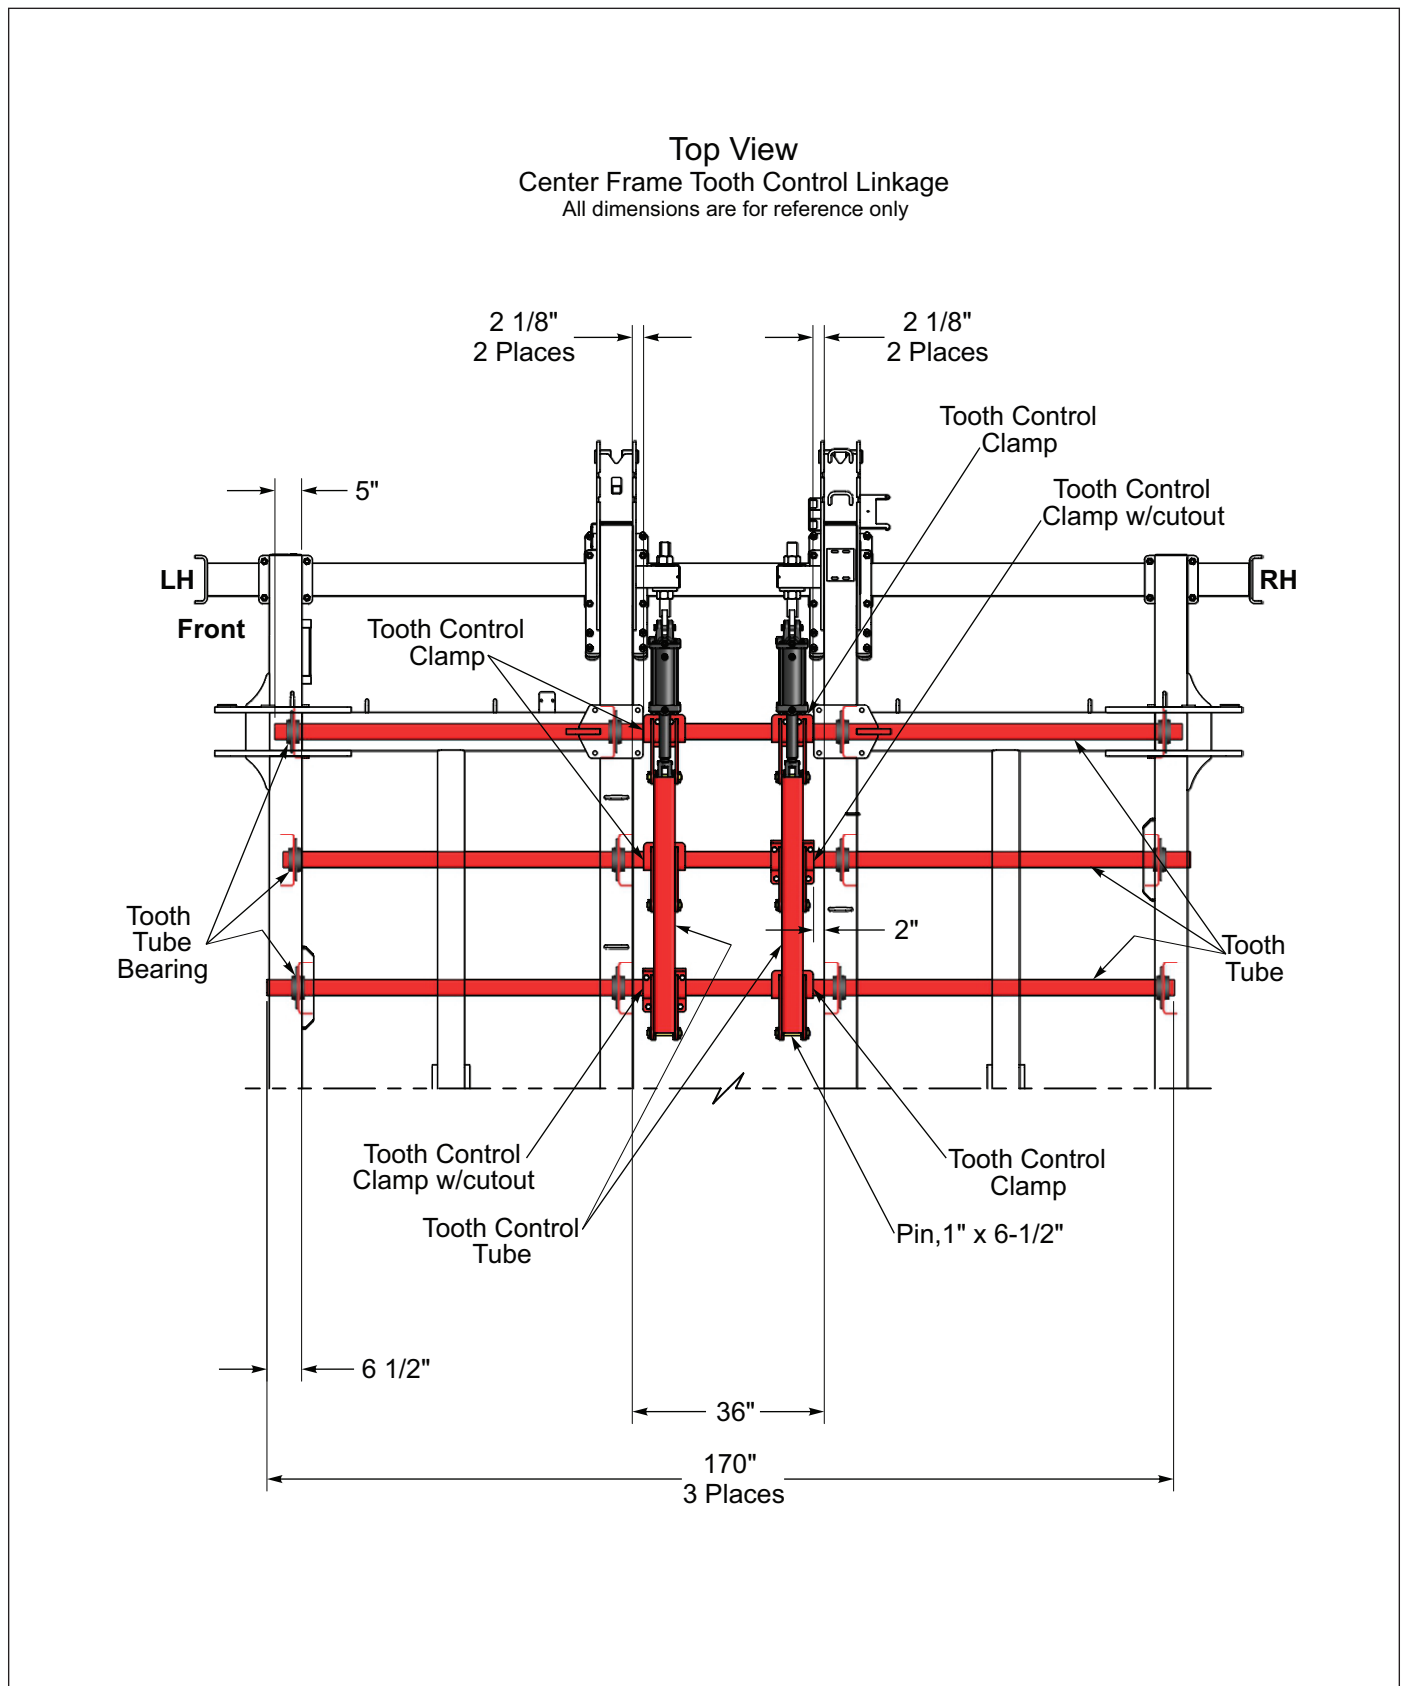

Figure 2-38: Center Frame Tooth Control Brackets Mounting Dimensions
2. Position Tooth Tubes in the proper lateral position to the frame before continuing. **See Figure 2-38.**
1. Attach a Tooth Control Bracket on the top of the left Front Tooth Tube by sliding a Clamp Plate into the Tooth Control Bracket Slot and under the Tooth Tube. Secure with 5/8-11 x 5 Bolts and Locknuts. **Do Not** tighten at this time. **See Figures 2-38 and 2-39.**
1. Attach a Tooth Control Bracket on the top of the right Front Tooth Tube by sliding a Clamp Plate into the Tooth Control Bracket Slot and under the Tooth Tube. Secure with 5/8-11 x 5 Bolts and Locknuts, **Do Not** tighten at this time. **See Figures 2-38 and 2-39.**